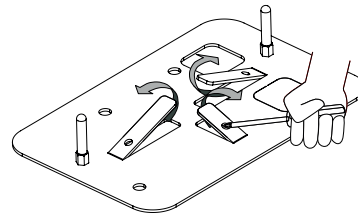

Fig. 4C
- 3) Using a screwdriver, lift up the anchor tabs (Fig. 4C).